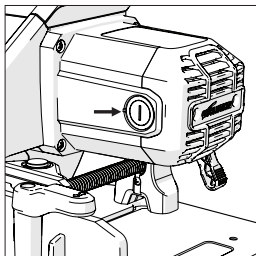

Abb. 19
- Unscrew the plastic caps found at the back of the motor. Be careful as the caps are spring-loaded. **(Fig. 19)**